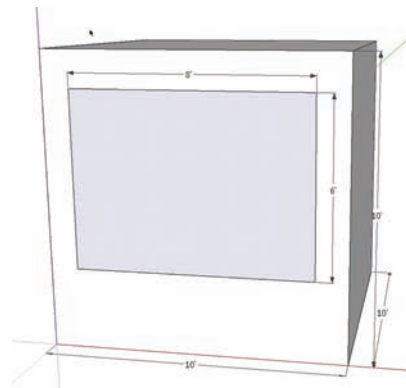

Fig. 9-5: Creating a window component on the 10' × 10' × 10' cube.
1. Create a 10' × 10' × 10' cube (Fig. 9-5).
2. On one of the vertical faces, draw a rectangle 8' wide × 6' high (Fig. 9-5).